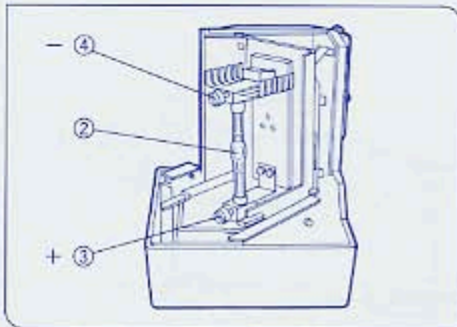

Fig. 12
3. Loosen the burner clamping screws ③ and ④ (Fig. 12) and remove the transport post. (For burner replacement, remove the used burner.)
4. Insert the + pole of the mercury burner ② into the + terminal and tighten the + clamping screw ③. Then loosen the - clamping screw ④ (marked UP). Insert the - pole of the burner into the - terminal and tighten the - clamping screw ④. (Fig. 12)